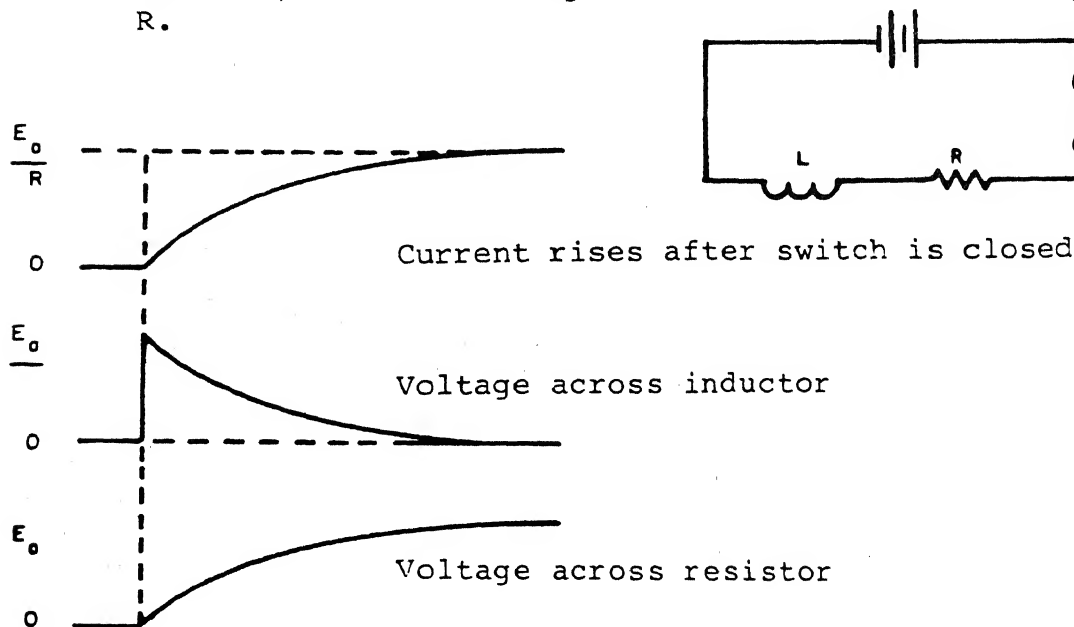

Figure 1
2. Figure 1 shows the typical current and voltage curves produced in L/R circuits. When the switch is closed, the battery voltage is applied across resistor R and inductor L. Current attempts to flow but the inductor opposes this change in current by building up a counter emf that, at the initial instant, exactly equals the E_{applied} . The curves show that at the instant the switch is closed in the circuit, all the voltage is across L and no voltage across R.